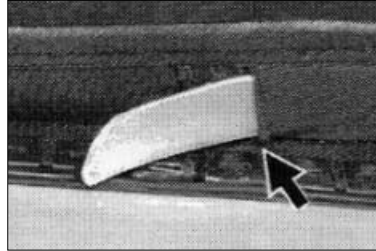

Figure 9
- Carefully insert the aluminum filler piece into the opened seam of Cabrio top (Figure 9).